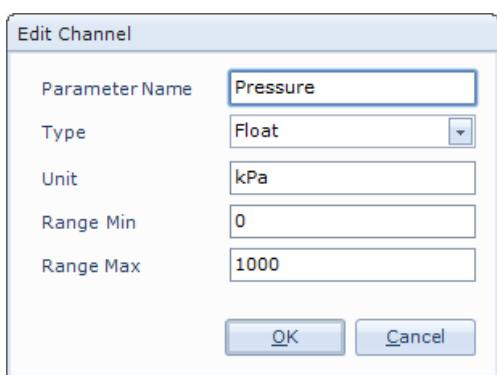

Figure 6-6 Edit channel
- Select each parameter's data channel in the **Channels** list and press **Edit** to set parameter name (e.g. Wind Speed), measurement unit (e.g. m/s) and max (e.g. 40) and min value (e.g. 0) limits, refer Figure 6-6. By filling in a format specification you can decide number of digits etc. when this value is presented in e.g. the collectors numerical viewer.